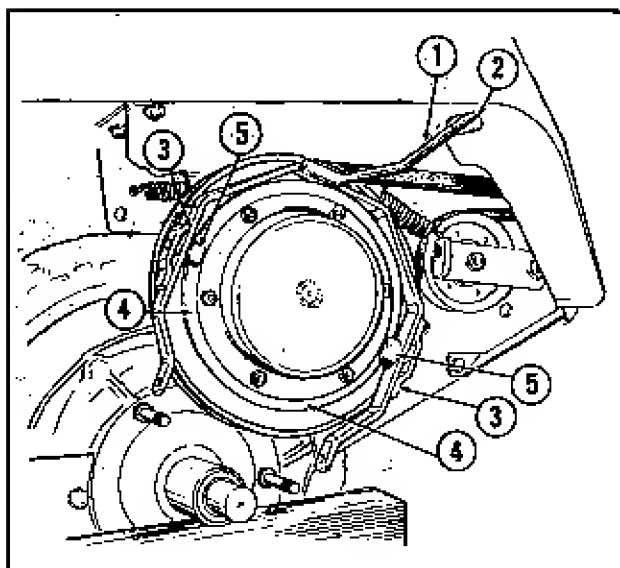

Figure 4
4. Insert the shifter yoke handle #1, Fig. 4, through the hole #2, Fig. 4, in the seat support. Assemble the shifter yoke #3, Fig. 4, to the narrow rim of the gear cover assembly, #4, Fig. 4. Slide the two slotted shift pivots #5, Fig. 4, into position astride the flanged gear cover assembly.